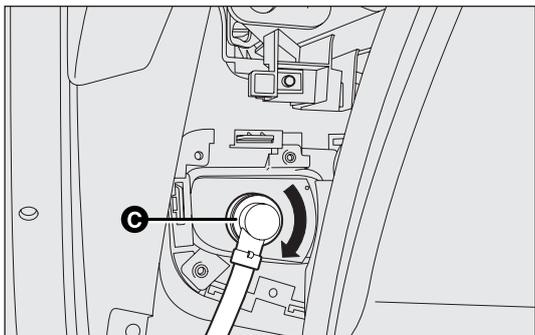

fig. 164
- remove the bulb holder cover C-fig. 164 by turning it anti-clockwise;
- refit the bulb holder cover C-fig. 164 by turning it clockwise and locking it properly;